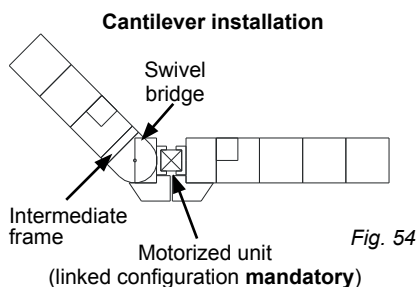

Fig. 54
- 3- For a cantilever installation (see fig. 54), use the yoke plates, pins and bolt assemblies to attach the intermediate frame to the swivel bridge as described in the instructions for a cantilever installation (see p. 24).
For more information on how to use a swivel bridge assembly and how to install it or for any configuration other than illustrated below (fig. 54 and 55), contact the distributor or the Hydro Mobile technical support team.